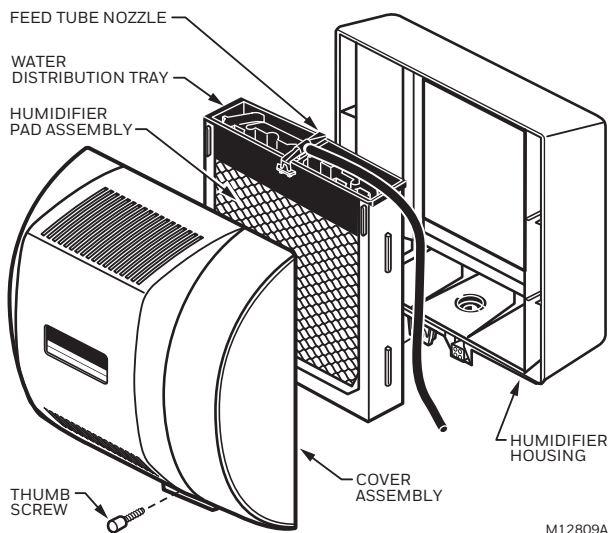

Fig. 19. Cleaning your humidifier.
- Remove the humidifier cover by unplugging the connector and loosening the thumb screw. Grasp the cover near the bottom and pull toward you. See Fig. 19.